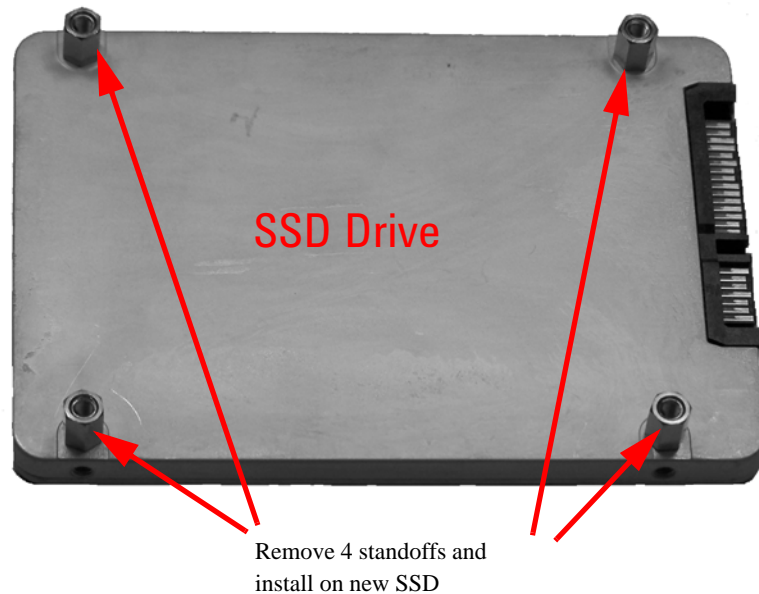

Figure 39 SSD Standoffs
- 6 Remove the four standoffs from the old SSD drive. Install the standoffs onto the new SSD. See Figure 39.